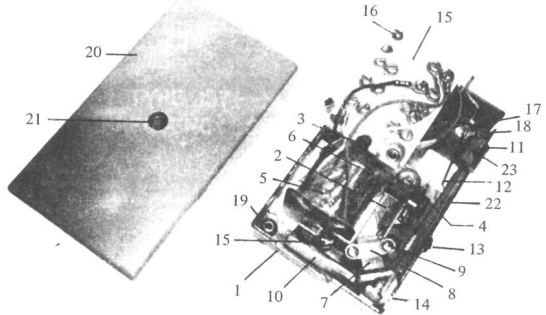

FIGURE 2 TOP VIEW - COVER REMOVED
- 1.03 The 137 compact ringer is a single coil, single gong, frequency selective type of unit, with a volume control, assembled on a die-cast metal base and fitted with a molded plastic protective cover. (See Figure 2) In combination with types 136 and 138 it provides a complete range of units which meet the requirements of every class of service for compact telephone line main or extension ringers. Screw terminals are provided for all lead connections (see Figure 3A) and the base casting is fitted with shock absorbing rubber feet.